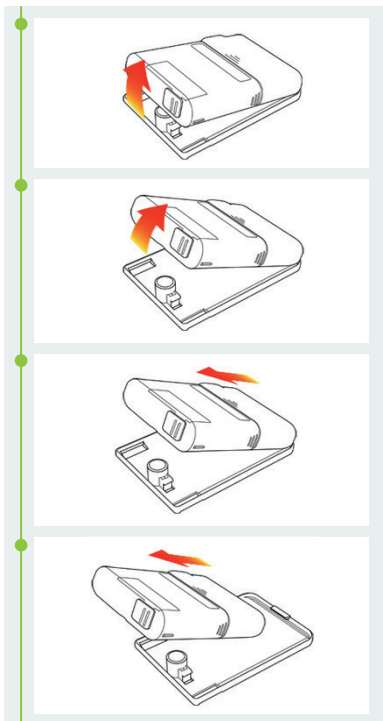
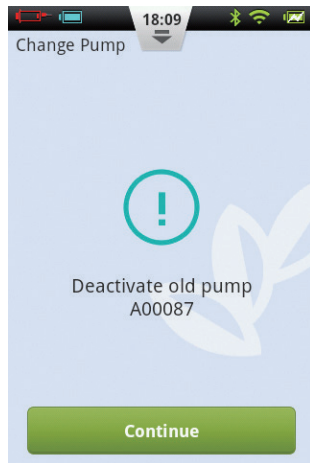

Figure 71
Figure 72
b) If this is not your first time using the wizard to connect a pump, the wizard will start with Figure 71, as displayed on the next page. Remove the pump and reservoir from the pump base as shown in Figure 71. Remove the old infusion set (Section 7.2), apply a new one (Section 7.1) and press Continue. The next page will prompt you to deactivate your old pump (Figure 72). Press Continue to disconnect the old pump from the PDA and wait for the pump to rewind. Separate the used reservoir from the pump (Section 7.5), dispose of the old reservoir and then assemble a filled reservoir and a charged battery to the pump as shown in Figure 70 on previous page. Press Continue to go to the next page.